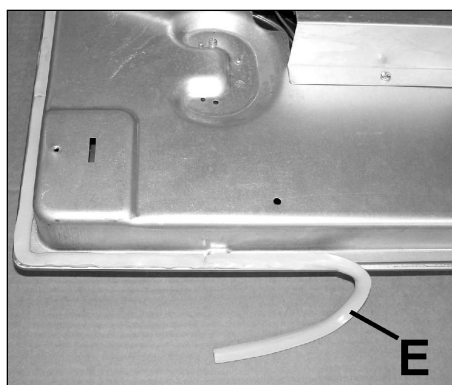

FIG. 10
- Overturn the hot plate and correctly position seal "E" (fig. 10) under the edge of the hot plate itself, so that the outer side of the seal perfectly matches the outer perimetral edge of the hot plate. The ends of the strips must fit together without overlapping.